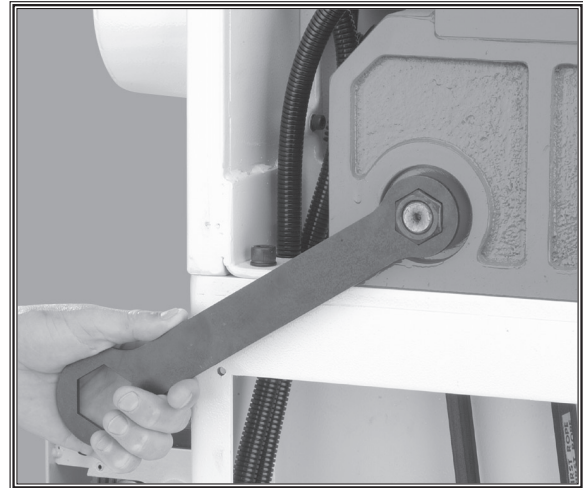

Figure 28. Roller spindle nut.
6. At the other side of the machine (the right-hand side from the front), remove the large nut shown in **Figure 28**. *The roller may turn if not held from the other side.* This secures the other end of the front roller shaft to the sander body.